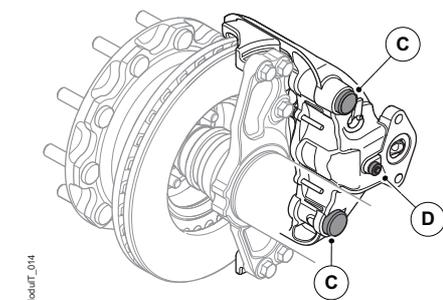

Figure 20. The three protection cups
5. The two protection cups for slide pin protection (C), see figure 20.